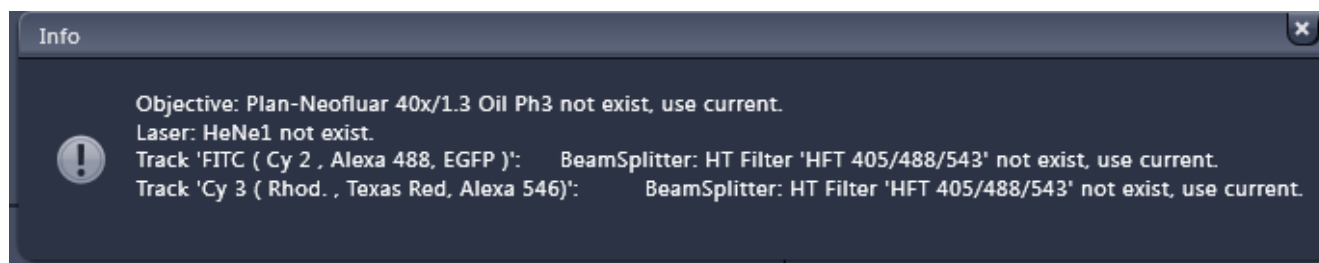

Fig. 268 Error message
- 👉 Eventual error messages (Fig. 268) fading in the right hand corner inform about missing hardware if applicable. The message box disappears after ~10 seconds.